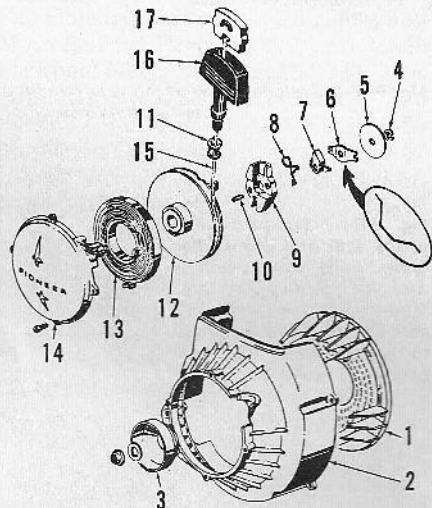

Fig. PR3-20—Exploded view of rewind starter. Friction spring (6) should be installed as shown.
**REWIND STARTER.** Starter pawls (7—Fig. PR3-20) can be re-